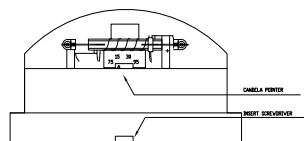

Figure 5:
- To move selector switch, insert screwdriver into slot shown on the bottom side of the strobe. The setting is indicated by a pointer and can be seen on the bottom side of the lens. See Figure 5.